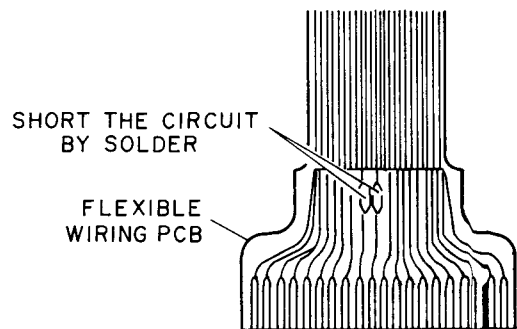

Fig 4-1
- 3) When connecting or disconnecting the RF AMP PCB (J201), make sure that the FLEXIBLE WIRING PCB is shorted circuit as shown in Fig. 4-1. Do not turn the electricity "ON" while it remains short-circuited.